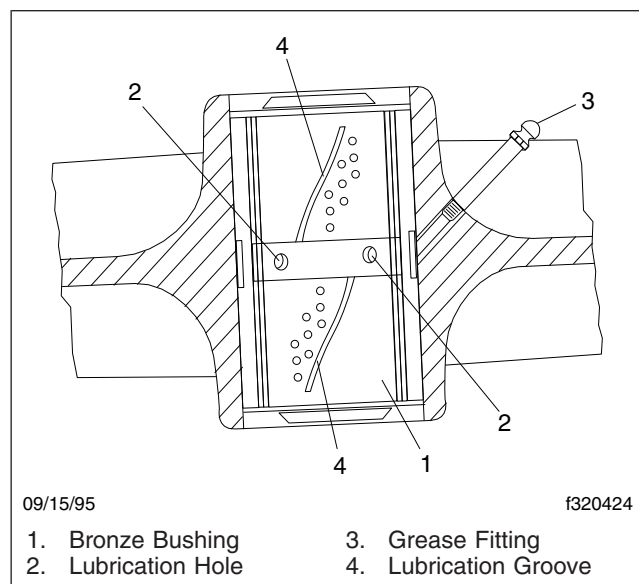

Fig. 10, Hendrickson RT2 and RTE2 Series Bushing Lubrication
3. Use a multipurpose chassis grease, and lubricate the bronze, ball-indented bushings in the spring eyes at the grease fitting. See **Fig. 10**. Continue to lubricate until grease exits both ends of the bushing. If the pin will not accept lubricant, remove the pin and clean the lubrication channels where lubricant may have hardened.